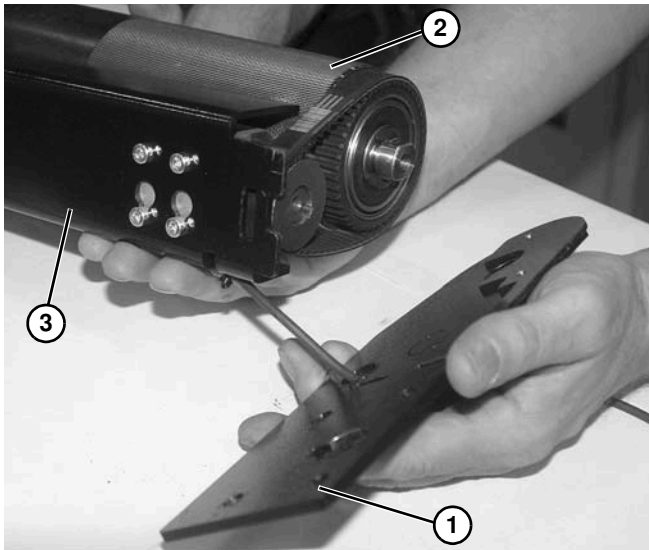

Figure 202
10. Remove cover plate (**Figure 202, item 1**) from spindle (**Figure 202, item 2**) and crossmember (**Figure 202, item 3**).